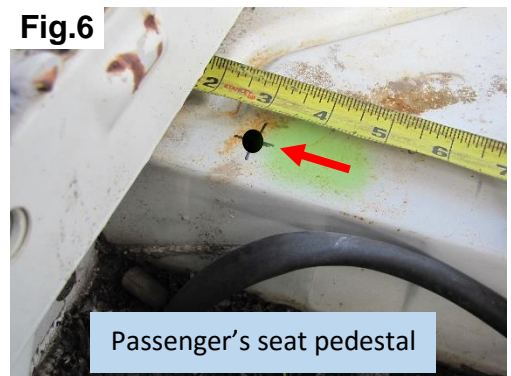

Fig.7
18. Attach other end of Wire #9 to the main battery pole on the isolator. (Fig.7)